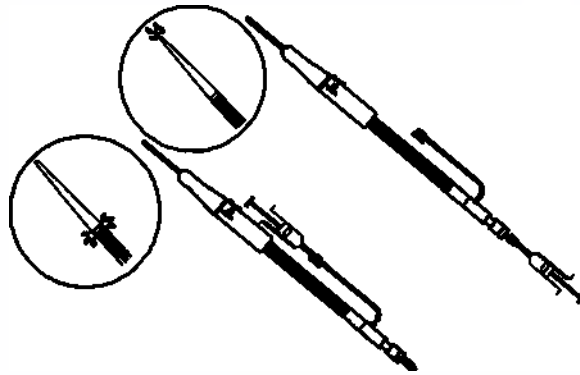

Fig 3 Flush the inner tube and the outer sheath
- ✧ Attach the syringe with heparinized saline to the luer hub and hemostasis valve and flush separately to evacuate air from the inner tube and the outer sheath. (Fig.3)